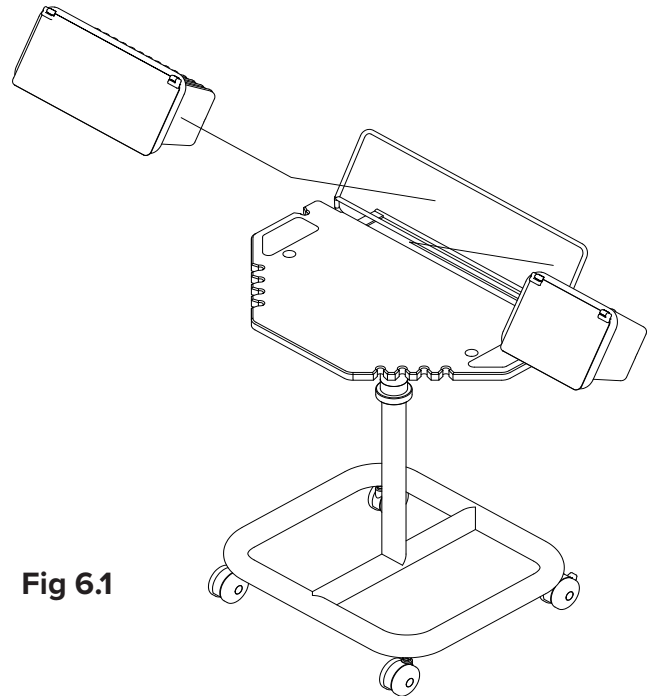

Fig 6.1
1. Resupply and Medical Bins are placed in the lower portion of the Bin Frame (Fig 6.1).